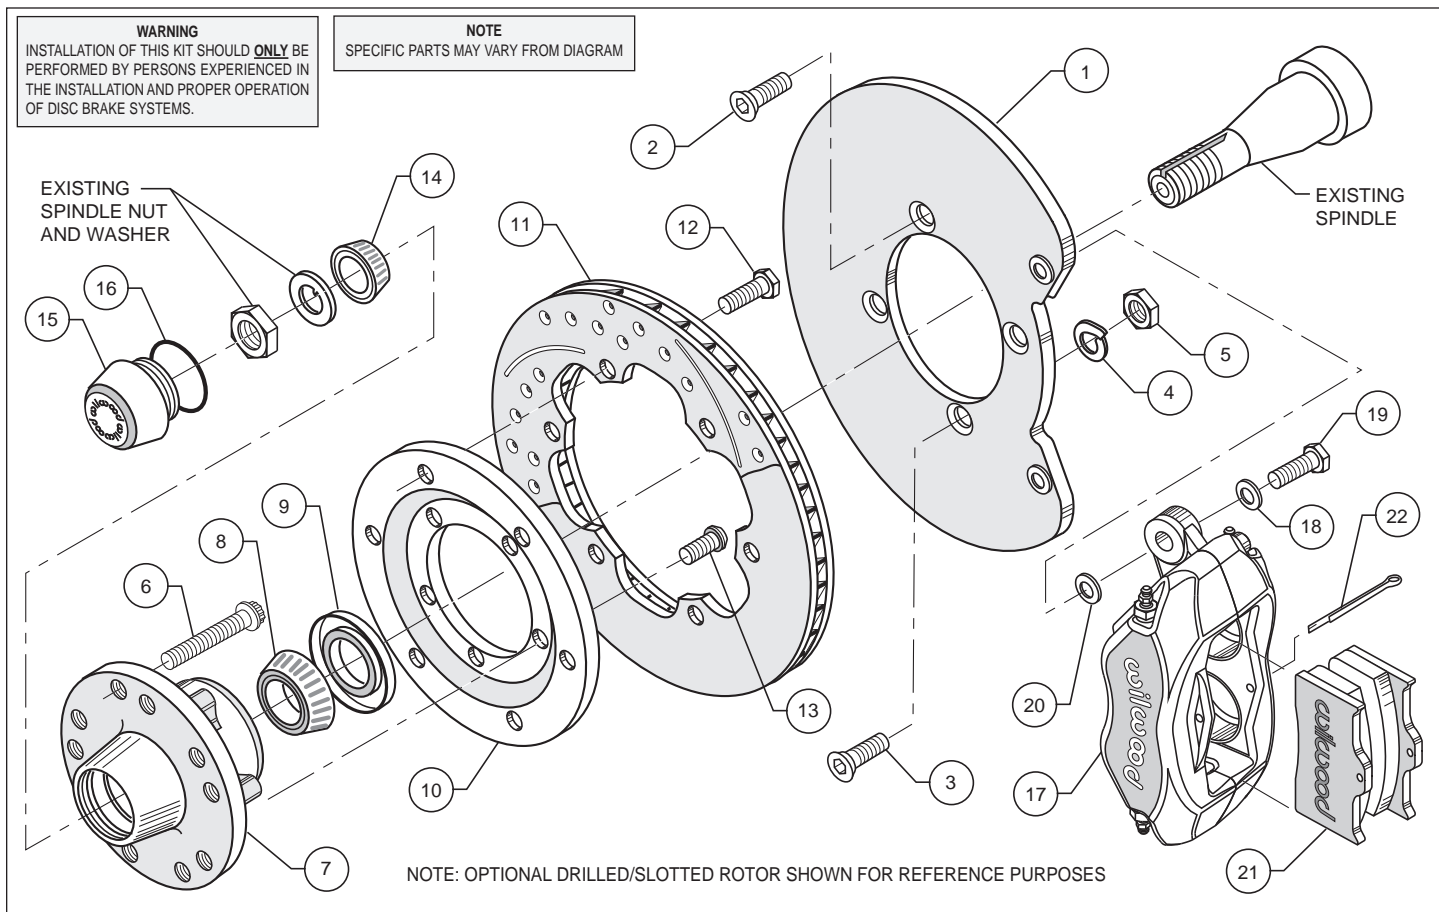
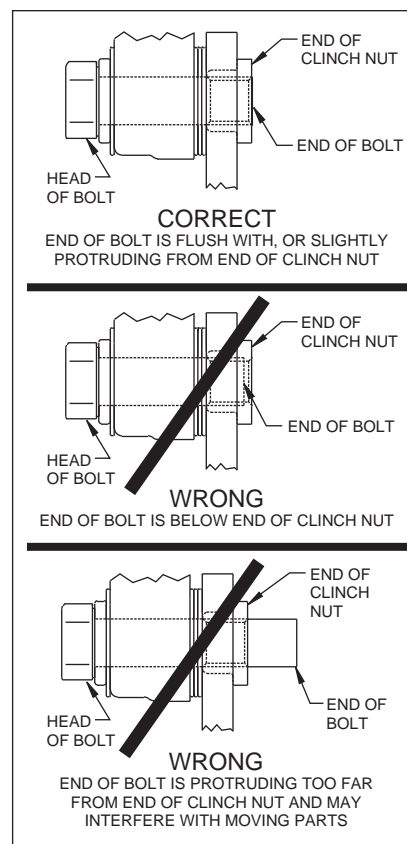

Figure 1. Typical Installation Configuration
Figure 4.
- Mount the adapter/rotor assembly (10/11) to the hub (7) using bolts (13) (finger tight), as shown in Figure 1. Using an alternating sequence, remove bolts one at a time, apply red *Loctite*® 271 to the threads, and torque to 55 ft-lb.
- Pack the small outer bearing cone (14) with high temperature disc brake bearing grease and install into front of hub (7). Slide the hub/rotor assembly (7 and 11) with outer bearing cone (14) onto the spindle. Secure using stock washer, adjusting nut and nut locking device. Adjust bearings per Original Equipment Manufacturer (OEM) specifications.
- Install the dust cap (15) onto the hub (7). Friction created by the o-ring (16) on the dust cap (15) keeps it from unscrewing. The O.D. of the existing spindle washer may be larger than the I.D. of the dust cap (15) not allowing it to seat against the hub face. Some grinding on the washer O.D. may be necessary to clear the I.D. of the dust cap (15).
- NOTE:** Please reference the caution statement at the beginning of the assembly instructions. With the bleed screws pointing up, mount the caliper (17) onto the caliper bracket (1) using washers (18) and bolts (19). Finger tighten. View the rotor (11) through the top opening of the caliper (17). The rotor (11) should be aligned in the center of the caliper (17). If not, adjust the caliper (17) by using 0.032 inch thick shims (20) placed between the caliper mounting bracket (1) and the caliper (17). Finger tighten and recheck alignment. Use as many shim washers (20) as necessary to achieve the correct alignment. **NOTE:** The end of the bolt must be flush with or slightly protruding from the head of the clinch nut. See Figure 4. Place spare shims (20) between washer and caliper mounting ear to achieve the proper mounting fastener configuration. Always use the same amount of shims on both the top and bottom caliper mounting bolts (19). Apply red *Loctite*® 271 to bolt threads (19) and torque to 40 ft-lb. Caliper mount bolts may be safety wired for additional security.
- Install the disc brake pads (21) and secure using cotter pin (22).